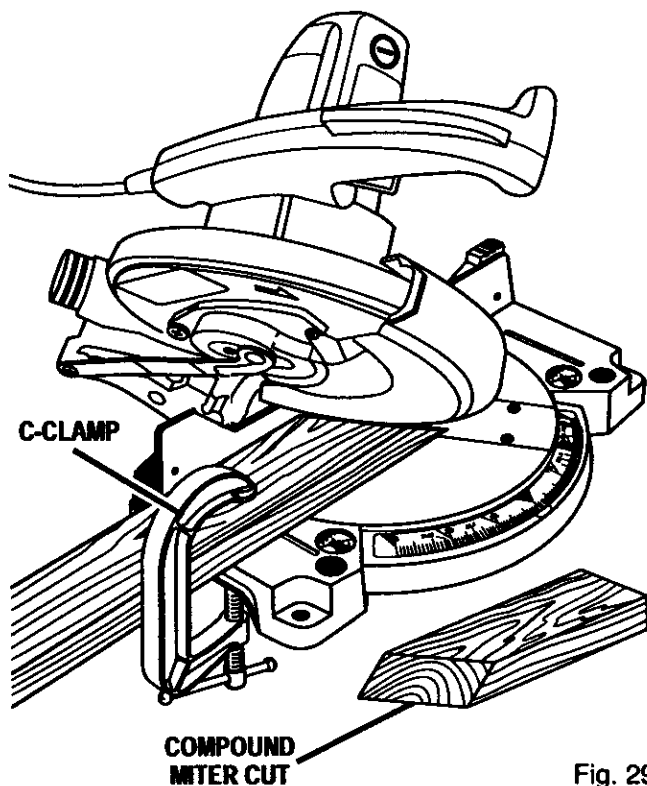

Fig. 29
See Figures 29 and 30.
- Grasp the stock firmly with one hand and secure it against the fence. Use the optional work clamp or a C-clamp to secure the workpiece when possible. *See Figure 29.*
- Slowly lower the blade into and through the workpiece. See Figures 29 and 30.